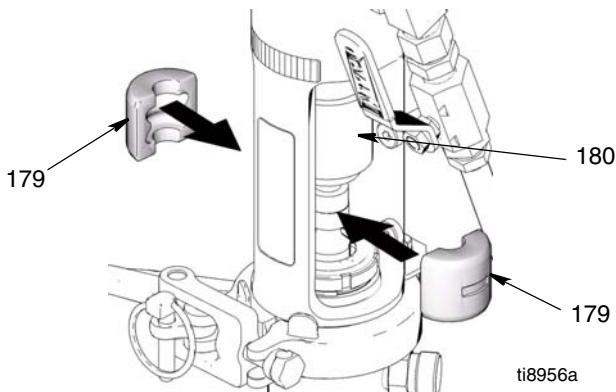

FIG. 17
5. (FIG. 17) Slide coupler cover (180) up to expose pump rod. Install rod couplers (179) over rod.